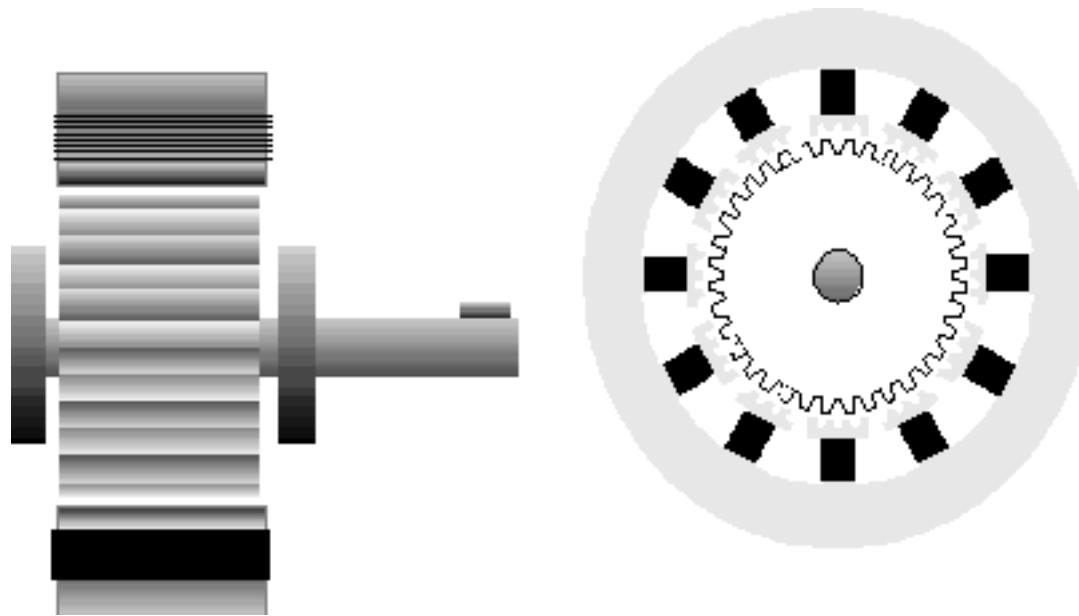

Figure 1. cross section through a variable reluctance stepping motor
- Figure 1, in the next slide, is a picture of a typical stepper motor. Notice there are six leads instead of the usual two. The extra wires are needed because there are multiple coils in the motor casing, which allow the motor to "step" a fraction of a rotation.
The **variable reluctance** or **V.R.** (fig 1) motor consist of a rotor and stator each with a different number of teeth. As the rotor does not have a permanent magnet it spins freely i.e. it has no detent torque. Although the torque to inertia ratio is good, the rated torque for a given frame size is restricted. Therefore small frame sizes are generally used and then very seldom for industrial applications.